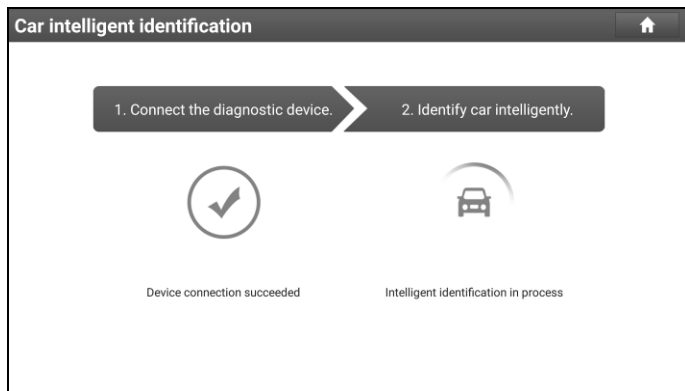

Fig. 5-1
1. Tap "Diagnose" on the Diagnostics function module and tap "AutoDetect" to enter Fig. 5-1.